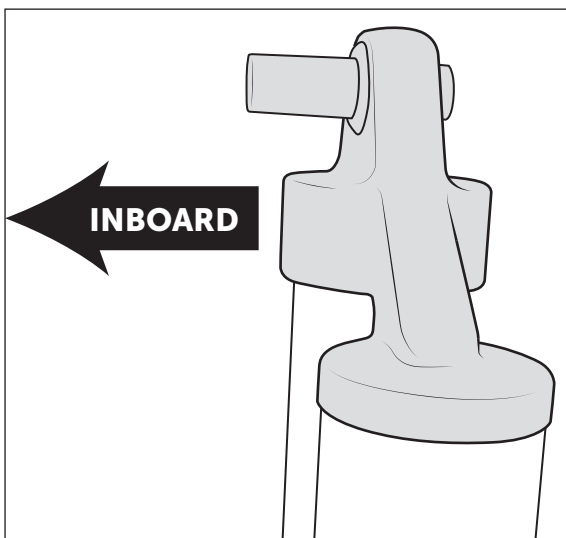
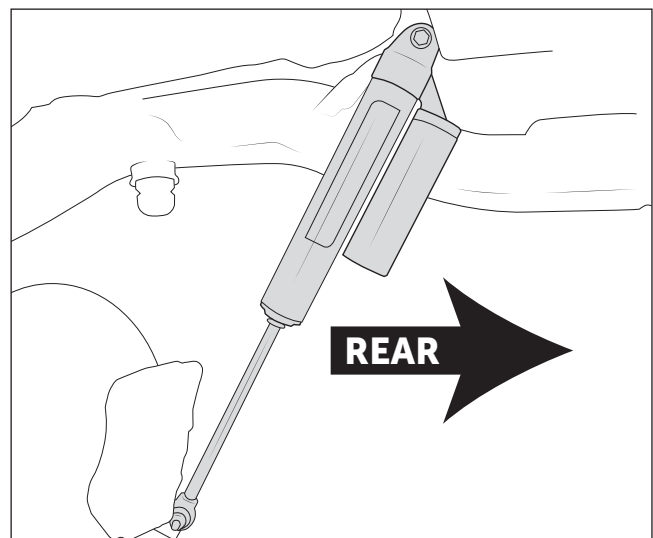

Figure 11
Figure 12
1. Install shock using factory hardware at both ends. Offset upper bushing should be installed with long end toward inside of vehicle so that shock body clears the frame (fig. 11). Reservoir should point toward the rear when installed (fig. 12).